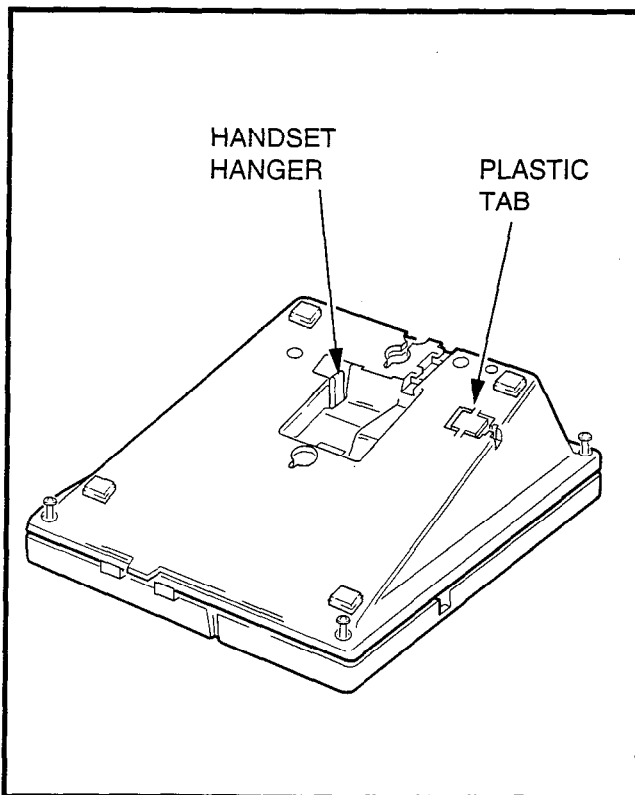

FIGURE 4-43—REMOVAL OF DIGITAL TELEPHONE BASE
6.12 Loosen the four captive screws securing the digital telephone's base, and remove the base (Figure 4-43).
- 1) Loosen the four captive screws securing the telephone's mounting base (Figure 4-43), and remove the base.
- 5) Reinstall the telephone's mounting base (Figure 4-43), and secure it with its four captive screws.
- 3) Reinstall the telephone base (Figure 4-43), and secure it with its four captive screws.
- 3) Reinstall the telephone's mounting base (Figure 4-43), and secure it with its four captive screws.
telephone's mounting base (Figure 4-43), and remove the base.
- 2) Using a screw driver or other suitable tool, remove the plastic tab located on the back of the mounting base (Figure 4-43). The HHEU modular connector for the headset is accessed through this opening.